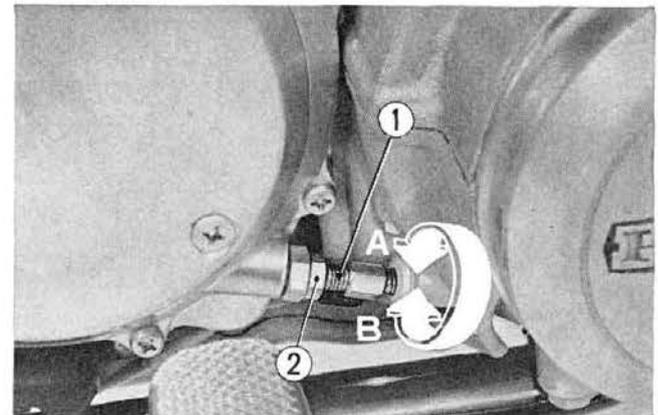

Fig. 19-12 ① Clutch cable adjusting bolt
- b. Turn the clutch cable adjusting bolt located at the clutch housing, in the direction ① to loosen the clutch cable. (Fig. 19-12)
- d. Turn the clutch cable adjusting bolt located at the clutch housing lower right side of the engine in the ② direction so that there is approximately  $3/4$  of free play at the clutch lever; then tighten the lock nut. (Fig. 19-12)
- (3) The nominal clutch lever free play is 0.4-1.0 in (10~25 mm) measured at lever end before the clutch starts to disengage.